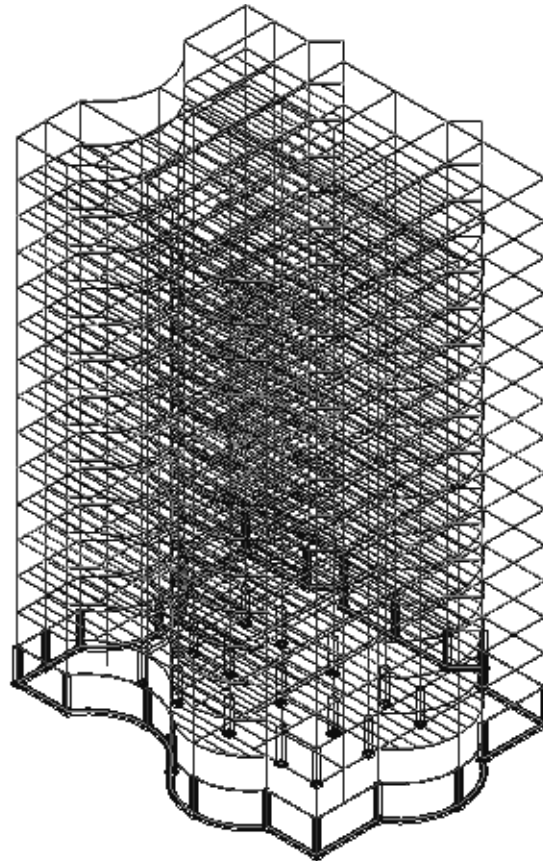

Figure 7–20
15. Open a 3D view to see the full model, as shown in Figure 7–20.